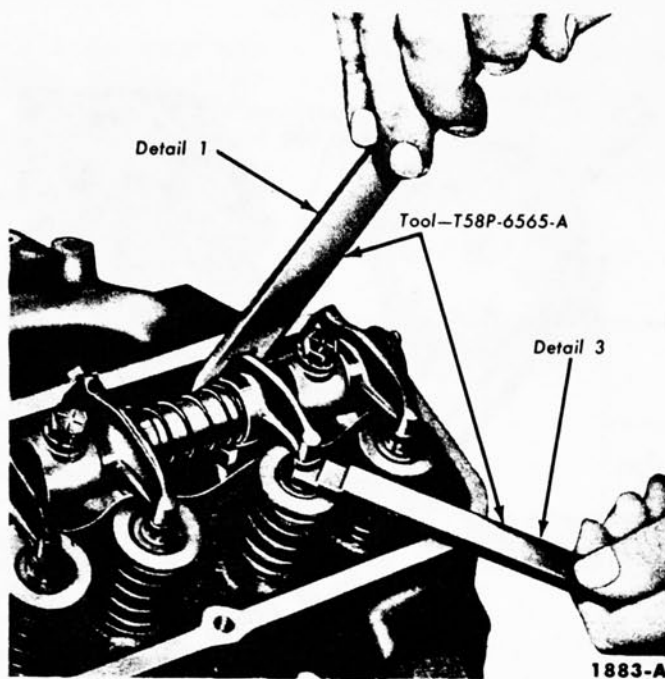

FIG. 2—Valve Clearance—Typical
1. Position the crankshaft as outlined in Steps 2 and 3. Position the hydraulic lifter compressor tool on the rocker arm and slowly apply pressure to bleed down the hydraulic lifter until the plunger is completely bottomed (Fig. 2). Hold the lifter in the fully collapsed position.
On a 352 engine, insert the clearance gauge (Fig. 2) between the valve stem and the rocker arm of the valve being checked.
Upon replacement of a valve push rod and/or valve rocker arm shaft assembly, the engine should not be cranked or rotated until the hydraulic lifters have had an opportunity to leak down to their normal operating position. The leak down rate can be accelerated by using the tool shown in Fig. 2 on the valve rocker arm, apply pressure in a direction to collapse the lifter.